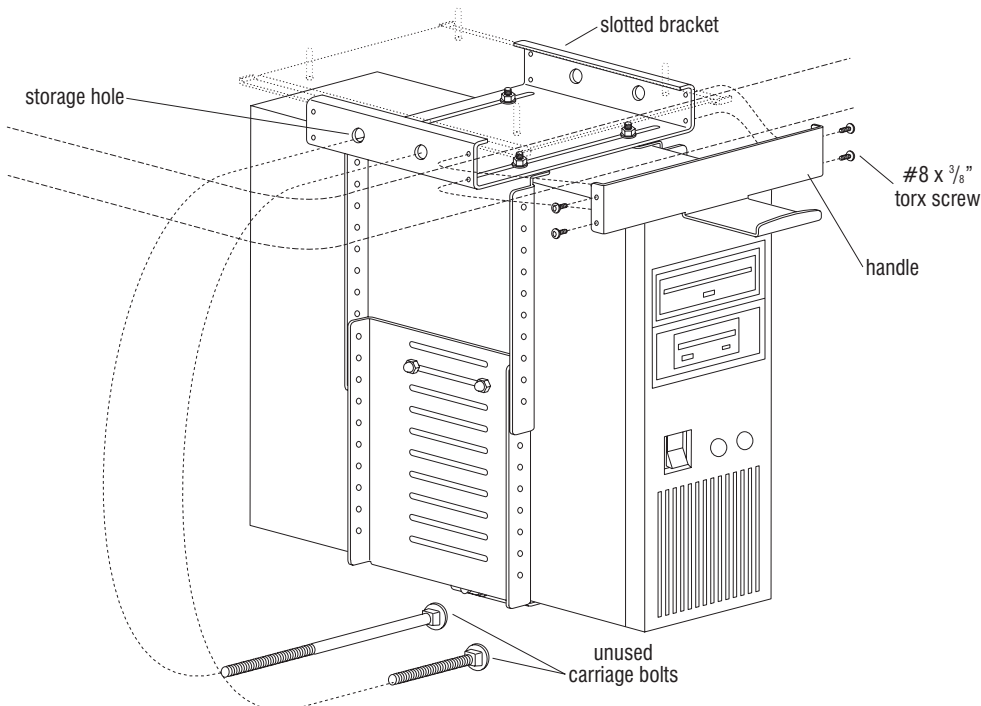

Figure 5
10. Attach the handle to the slotted bracket with four #8 x 3/8" Torx head screws (Figure 5).